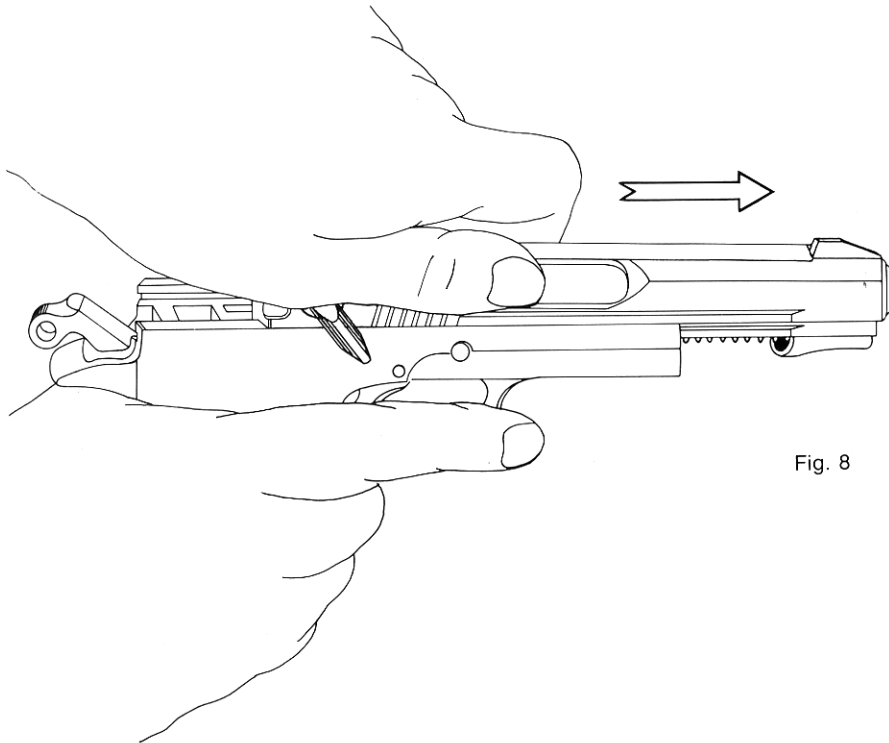

Fig. 8
4. The slide assembly may then be drawn forward and removed from the frame (see fig. 8).